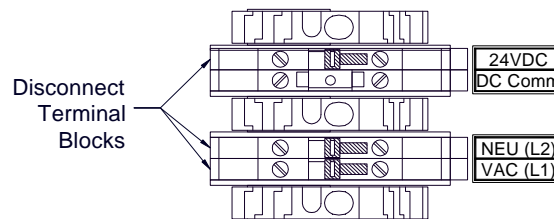

Figure 14 N4X AC/DC Inputs
2. Install AC power as follows (Figure 14):
- Install external DC power by connecting the 11.5-30VDC to the terminals of the TB1 DIN rail mounted terminal block labeled **24VDC** and **DC Comm** (Figure 14). The equipment supply wiring must be safety approved and rated for at least 7.5A.